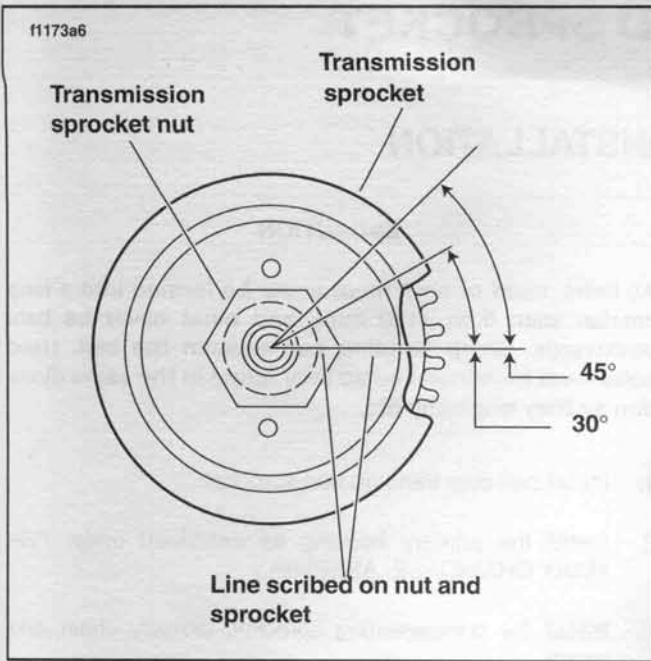

Figure 6-22. Transmission Sprocket Nut
6. See Figure 6-22. Scribe a line on the transmission sprocket nut and continue the line on the transmission sprocket as shown.